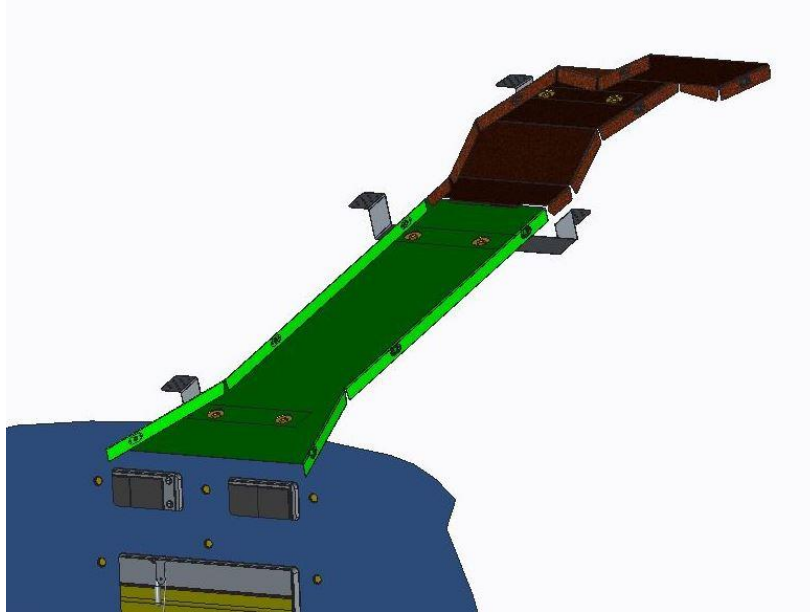

Figure 33 - Mount Rear and Angled Duct Hangers
- 3) After the three Duct Support Assembly bonds have cured, re-install the rear headliner and cut small holes that align with the nutplates in the three brackets. Mount the Rear Duct Hanger and Angled Duct Hanger (with the Angled Hanger tab tucked under Rear Hanger) using (6) AN3-3A #10 bolts and (6) AN960-10L washers. See Figure 33.